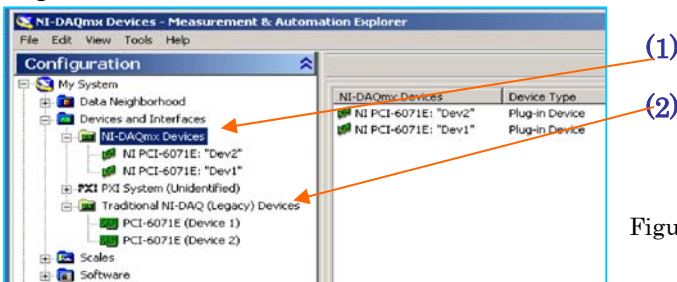

Figure. 1-13
2. Run the “Measurement and Automation” shortcut on the desktop. Open “Devices and Interfaces” and check if the (1)“NI-DAQ mx Devices” appears as well as (2) “Traditional NI-DAQ (Legacy) Devices as seen in Figure.1-13